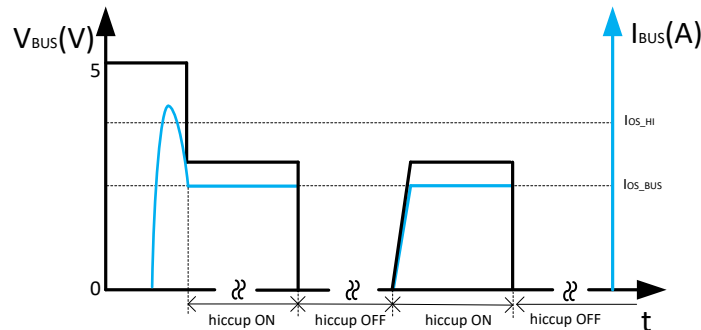

Figure 10-7. BUS Overcurrent Protection: Two-Level Current Limit
- The third condition is the load current increases just over the I_{OS_HI} setting. In this case, the load does not trigger the fast turnoff, the USB power switch current limit threshold is set back to the primary current limit, I_{OS_BUS} , immediately. If the load still demands a current greater than I_{OS_BUS} , the USB output voltage decreases to $I_{OS_BUS} \times R_{LOAD}$ for a resistive load, which is shown in Figure 10-7. If the overcurrent limit condition lasts longer than 4.1 ms, the corresponding USB channel enters hiccup mode with 524 ms of off-time and 4.1 ms of on-time. Another USB channel still works normally.